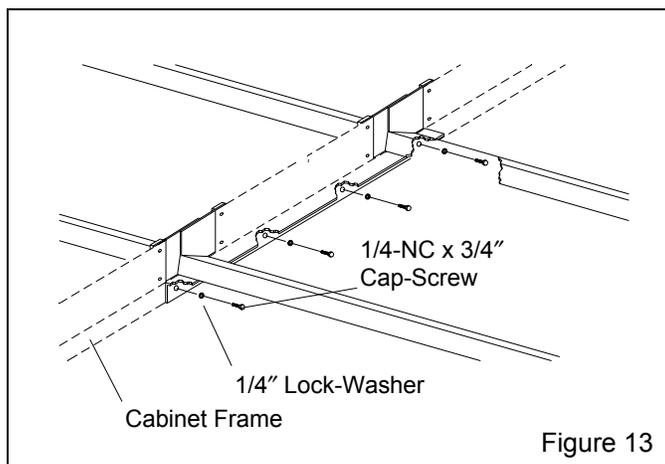

Figure 13
**3.4.3.6** Realign the track assembly. Secure the end bracket with 1/4-NC x 3/4" cap-screws, lock-washers, and hex nuts. Secure the middle bracket using 1/4-NC x 3/4" cap-screws and lock-washers through the bracket, and into the cabinet frame as shown in Figure 13.